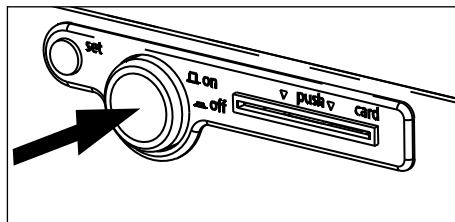

Fig. 13 Switch off cooled incubator
- ▶ Switching off: press the main switch so that it retracts back into the appliance (Fig. 13).